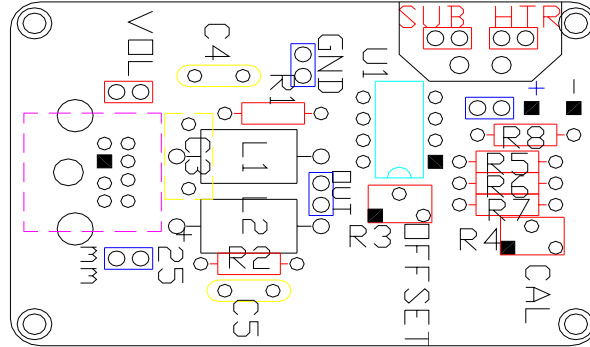

Figure 5
- A. Remove the screws holding the calorimeter's ID tag and remove the plate to expose the circuit board as shown in Figure 5.
- Remove the screws holding the interface module's ID tag and remove the plate to expose the circuit board. Refer to Figure 5.
- Connect a DVM to the white jacks of the calorimeter. Refer to Figure 5.